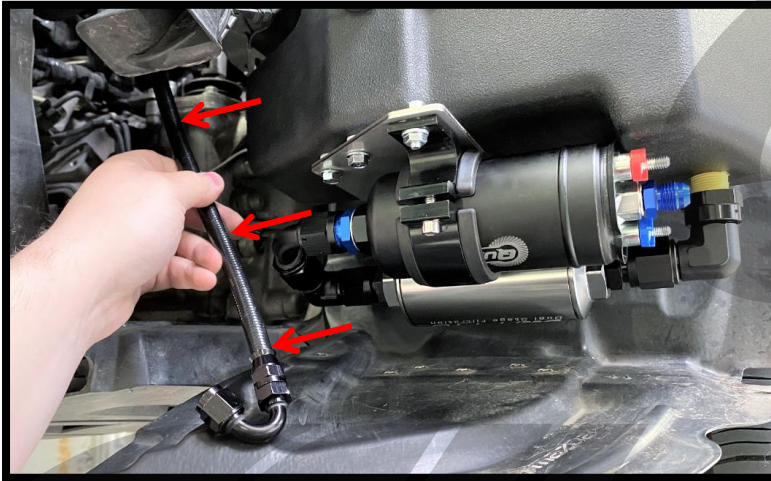

Figure 12b
- b) Insert the straight end of the fuel line up into the engine bay as shown in **Figure 12b**. Location is not important until a later step.